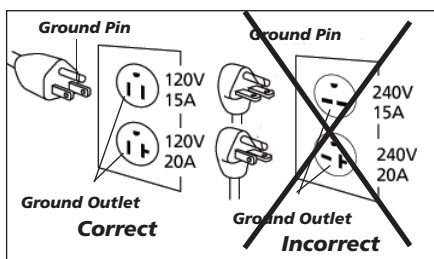

Figure 2
1. This product is for use on a nominal 120 v circuit. It must be grounded. In the event of an electric short circuit, grounding reduces the risk of electrical shock by providing an escape wire for the electric current. Unit is equipped with a cord that has a grounding prong. It will fit one of the common outlet types shown in Figure 2. If plug will not fit in the desired outlet, have the plug or the outlet replaced by a qualified electrician.
1. If the plug on the electrical cord of the unit is unfamiliar to you or will not fit your particular receptacle, Figure 2 will help you understand why by illustrating the different plugs and the voltages they are to be used with.
3. This product is for use on a nominal 120 volt circuit and has a grounding plug that looks like the plug illustrated in Figure 2.